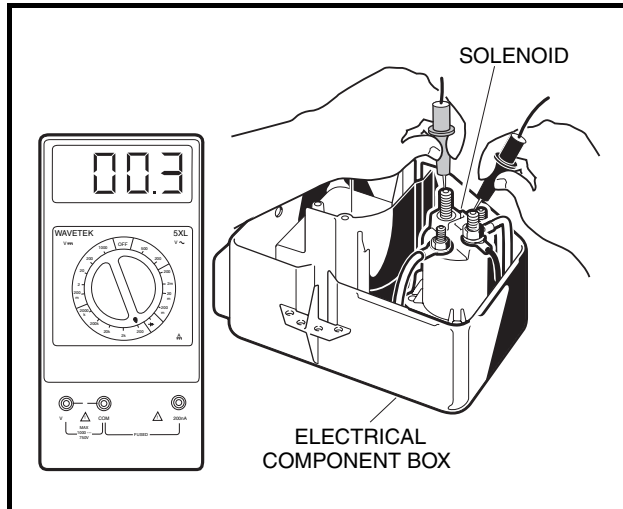

Figure 11-30 Test Solenoid Continuity
7. Set the multimeter to 200 ohms. Connect the red (+) probe to one of the large posts of the solenoid and connect the black (–) probe to the other large post (**Figure 11-30, Page 11-27**).